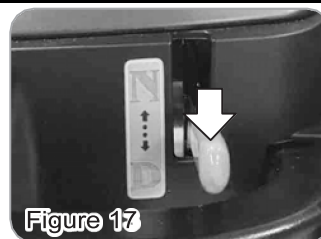

Figure 17
- When lever is in Drive (D) position, the scooter can be driven. Normal position is in D (Figure 17).